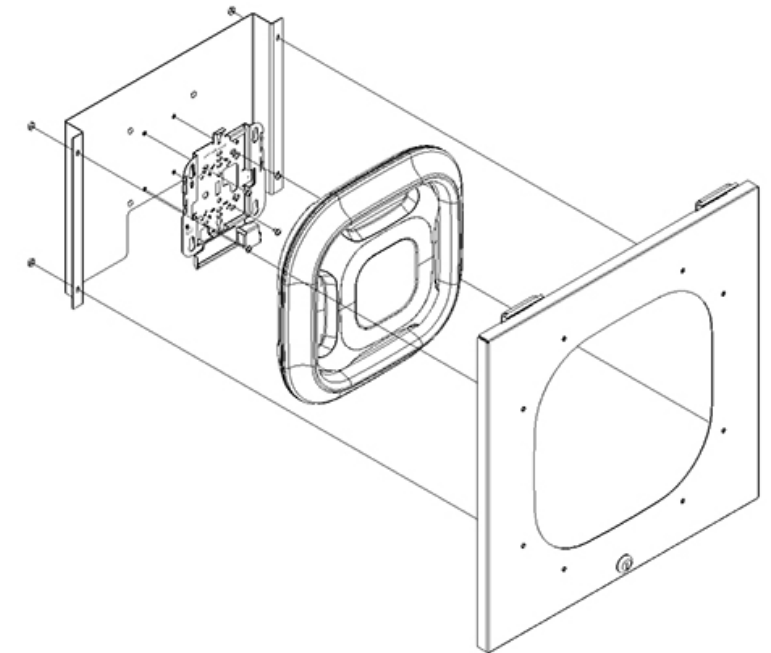

Figure 3 – Installation of cable clamp(s)
Step 2 – To install the Cisco AP with HLA module, remove the enclosure's aluminum mounting plate from the door by removing the four (4) nuts that attach the mounting plate. (Ref. *Figure 3*).